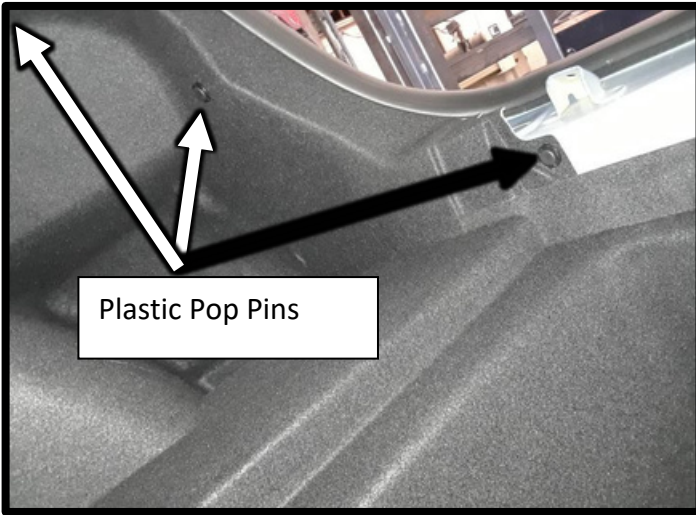
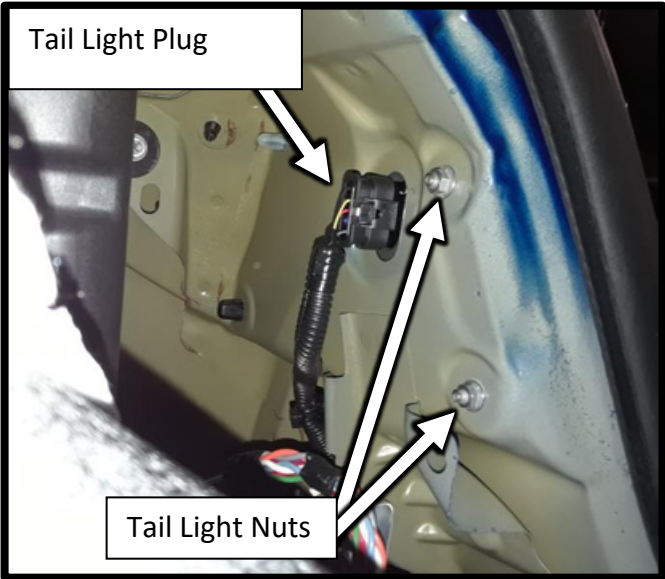

Figure 3.2 (Passenger Side)
Figure 3.3
- Remove all the plastic pop pins on both sides of the car as shown in figure 3.2. Pull the felt back and remove the two nuts holding the lights as shown in figure 3.3. Unplug the light and pop the light out.